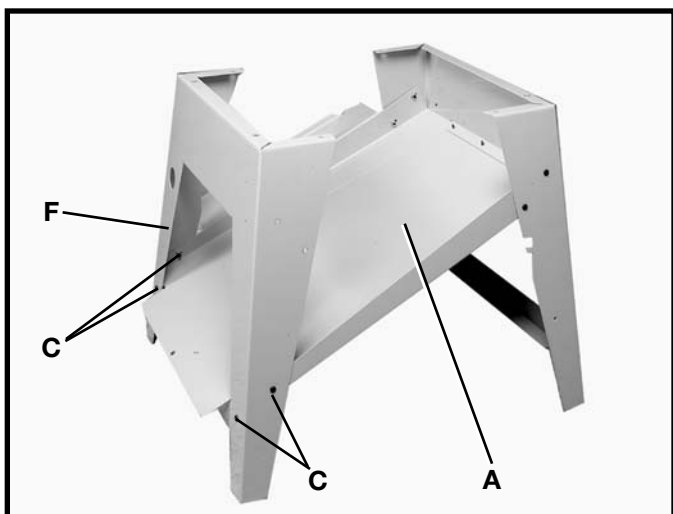

Fig. 7
3. Assemble the other end of dust chute and support panel (A) Fig. 7, to rear stand panel (F) as shown with four #10-32 x 1/2" screws and #10-32 hex nuts, which are shown at (C). **NOTE:** Do not completely tighten stand hardware at this time.